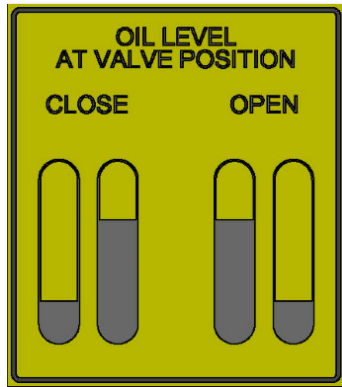

Fig 4.5 Oil Level Label
- Oil level: to indicate the oil level in the gas-oil tank in the open and close position (see Fig 4.5, Fig 4.6 for reference only)